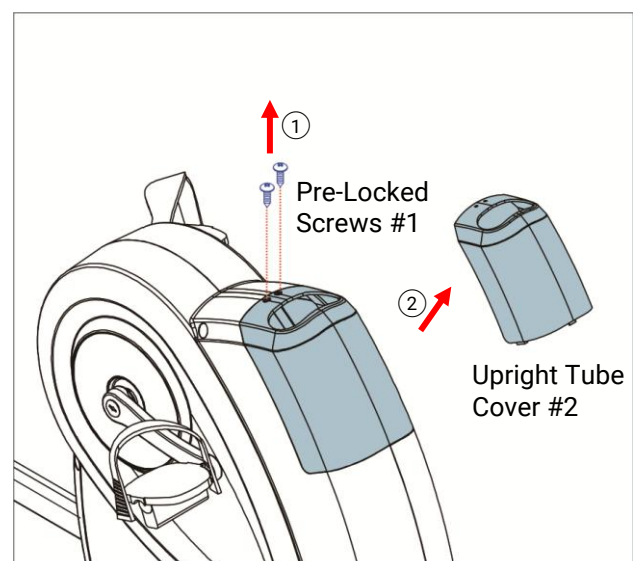

Fig 2.5-3A
- 1) Unscrew the (2) **Pre-Locked Screws #1** (①) on **Upright Tube Cover #2** with the provided Allen wrench (6mm), and then set the **Upright Tube Cover #2** aside (②). (Fig 2.5-3A)